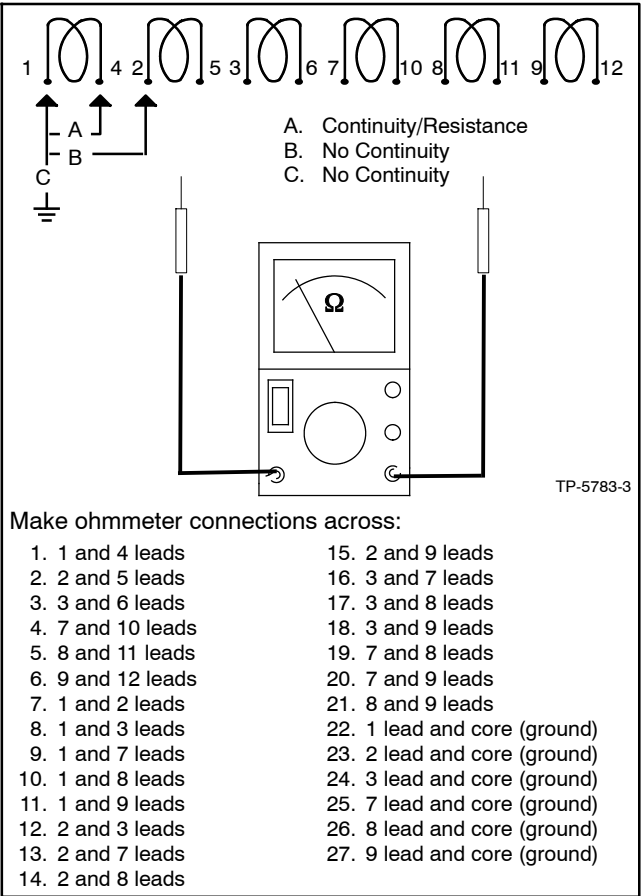

Figure 7-14 Stator Winding Continuity Test
5. With ohmmeter, check **each pair** of leads for low resistance readings (continuity). High resistance across A or low resistance (continuity) across B and the stator core (ground) indicates a faulty stator; replace stator. See Figure 7-14 and Figure 7-15. See Section 1.4, Specifications, Electrical Values for stator assembly resistance values.